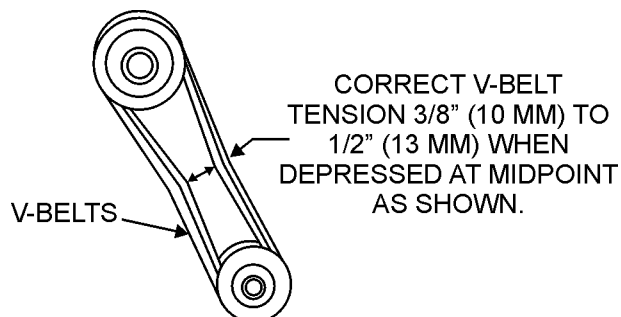

Figure 15. V-Belt Tension
3. Check V-belt tension (Figure 15) by using a tensionmeter (6.0 - 9.0 lbs) against the inside belt at a mid point between the two pulleys, or by deflecting the center belt at a mid point 3/8" (10mm) - 1/2" (13mm).